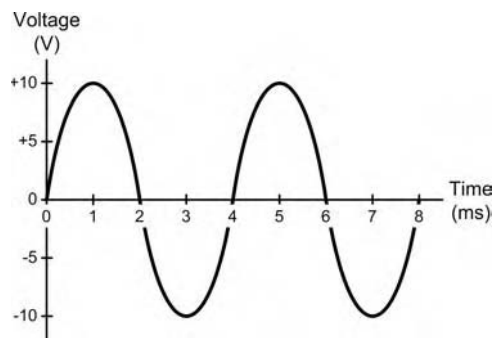

Figure 5.216
86. Figure 5.216 shows an AC waveform. The periodic time of the waveform is: [B1, B2]